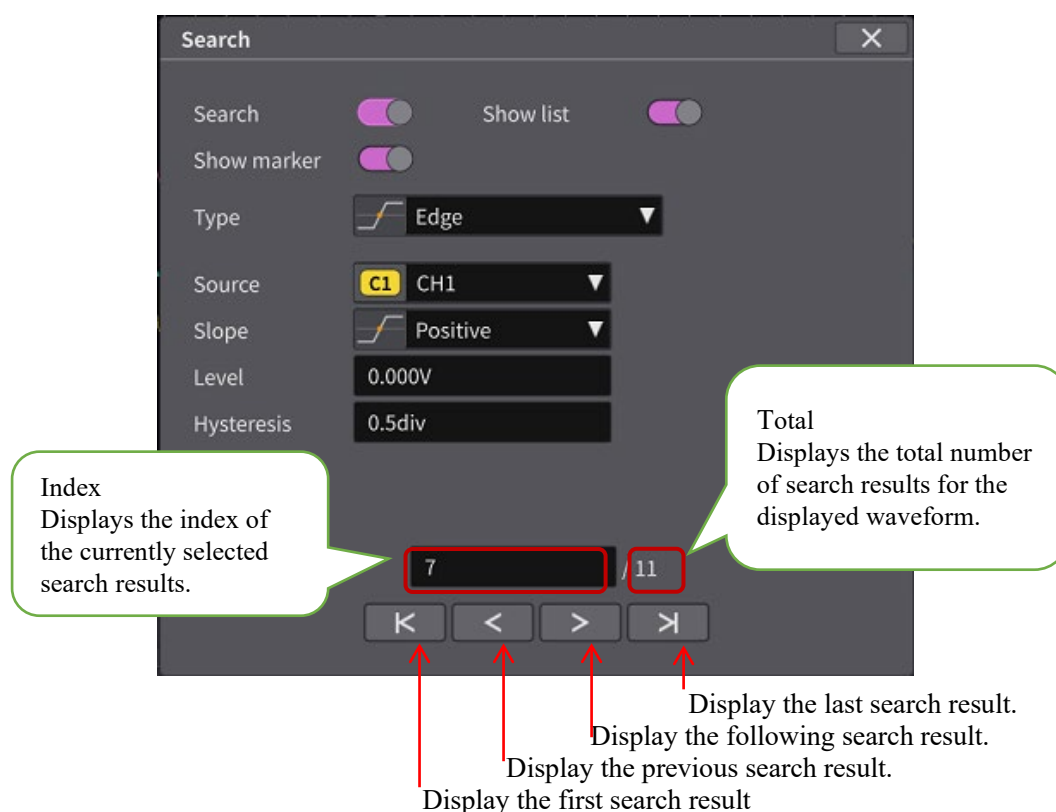

Figure 2.92 Search Window
- The case where Edge is selected is explained in the Settings Window of Figure 2.92. When Edge is selected, the search target is the positive and negative edge search of the waveform.